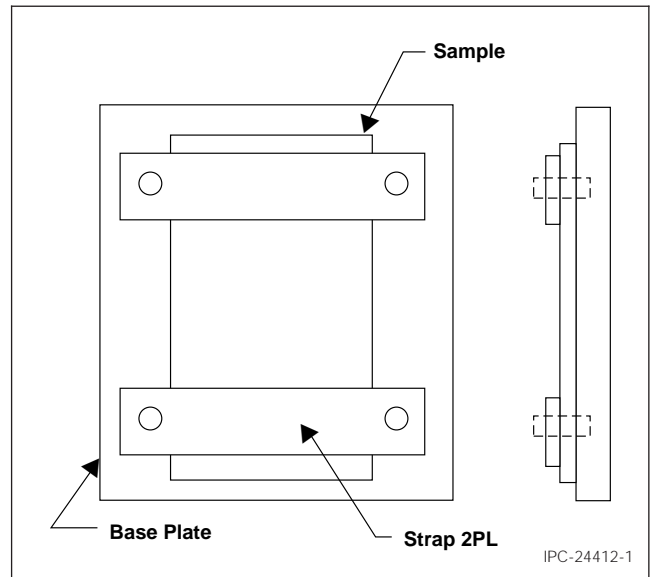

Figure 1 Test Fixture Configuration
5.4 Specimen Fixture Preparation (If required, Figure 1)
5.4.1 The PCB and titanium silicate standards, once assembled with the strain gages, are fixtured to prevent bending or warping by the straps labeled PL in Figure 1 during the temperature cycle test. The fixture used for the specimens will not interfere with the thermal expansion of the specimens being tested.